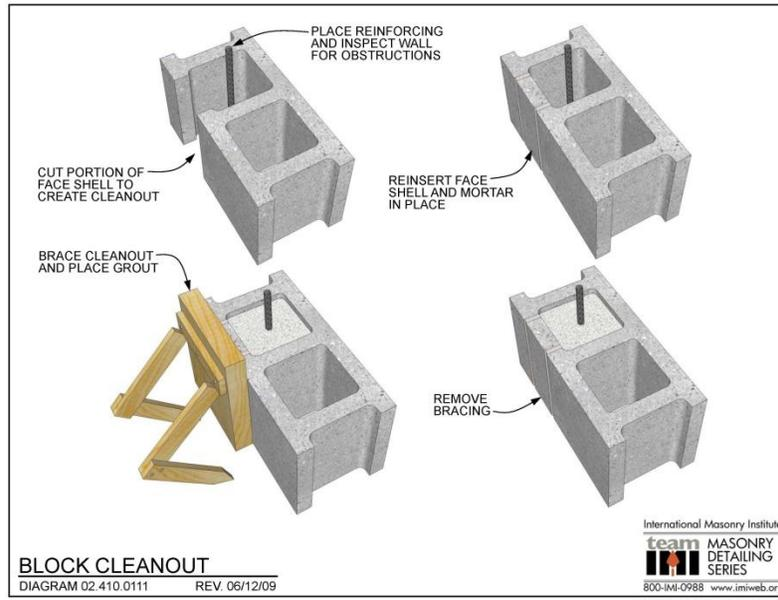
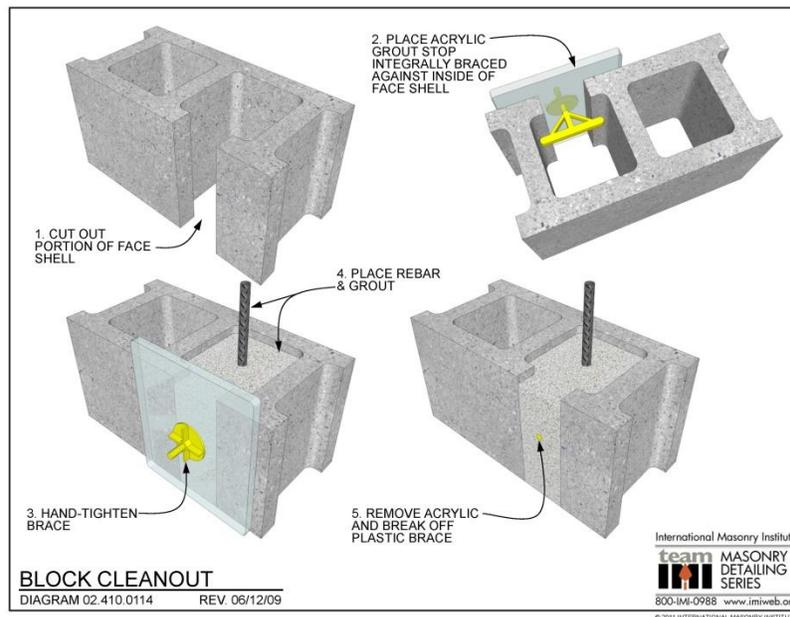

Figure 6 – Grout window
Figure 7 – Grout window
- Cleanout openings can be closed off with face shells of CMU and formwork (Figure 6), or commercially available acrylic inspection ports that are reusable (Figure 7). For exposed wall applications, NCMA suggests the entire face shell be removed and then reinstalled to better hide the clean out opening.